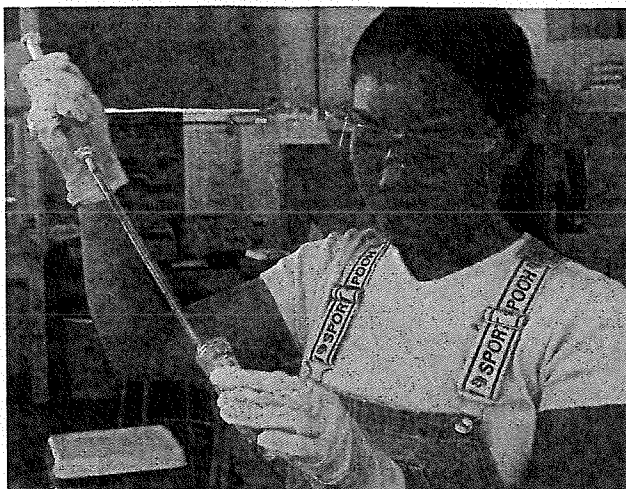

Figure 3.4. Always use a pipet pump or pipet aid with a pipet. Never pipet by mouth! Keep the pipet almost vertical when pipeting.
- **Use a pipet pump to withdraw and dispense liquids** (see Figure 3.4). Do not pipet by mouth.